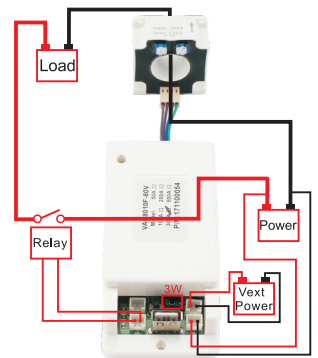

Figure 3-4
4). Discharge Relay Wiring Instruction (Figure 3-4)